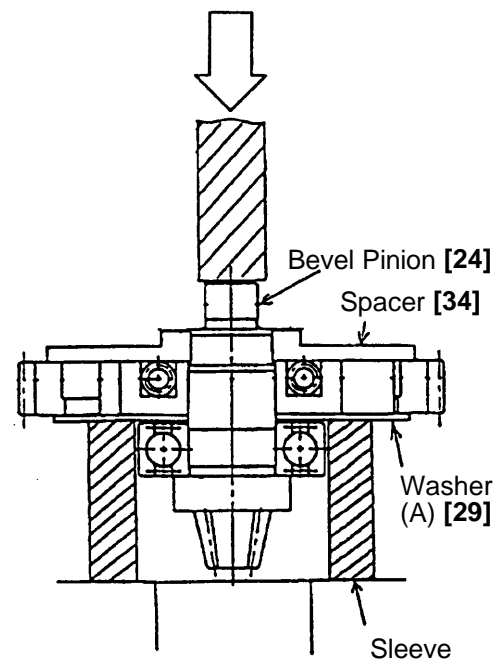

Fig. 15
The Slip Clutch Ass'y can be removed with the following procedure. First pull out the Ball Bearing 629VV **[35]** with a bearing puller (Code No. 970804), support Washer (A) **[29]** on a sleeve as shown in Fig.15 and release the Bevel Pinion **[24]** from the press-fitting by pushing it from the Spacer **[34]** side using a hand press. When removing the Gear Holder **[30]** from the Second Gear **[33]**, it is recommended to keep them inside a vinyl bag during disassembly to prevent the Springs (C) **[31]** and Needle Pins **[32]** from scattering.